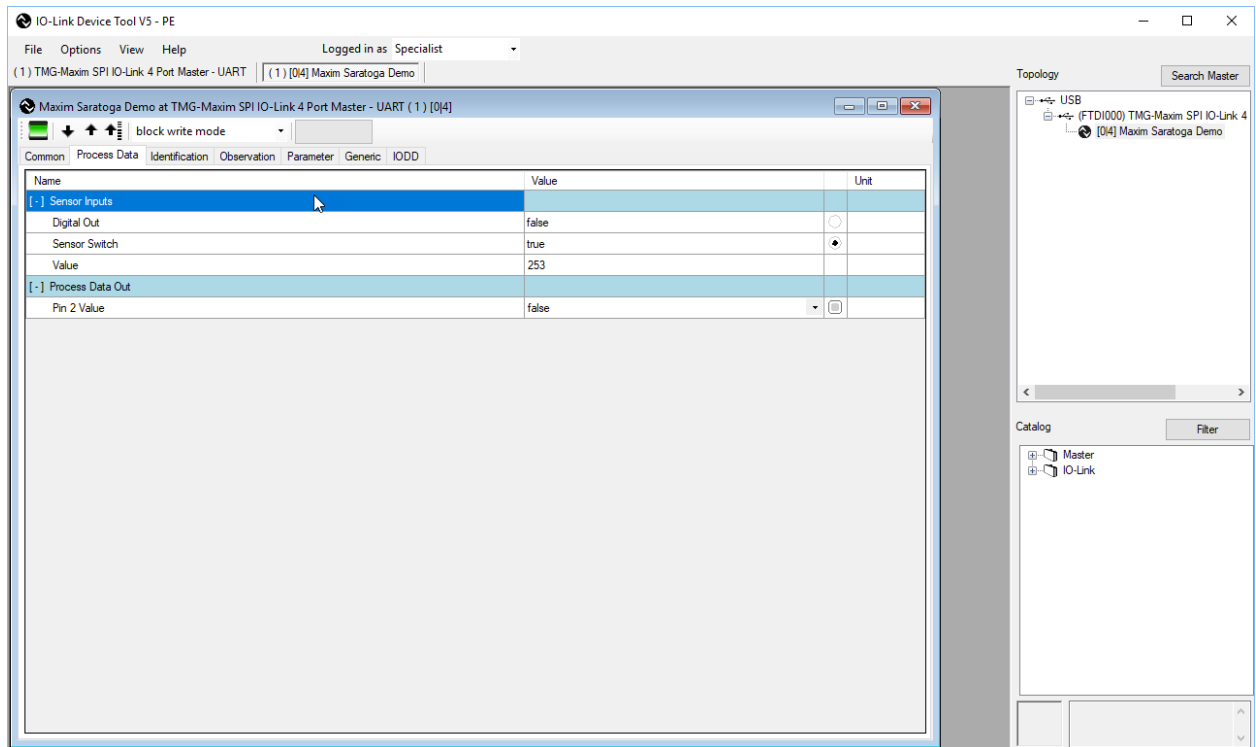

Figure 9. MAXREFDES27# process data out.
10. Select the tab **Process Data**, as shown in Figure 9.